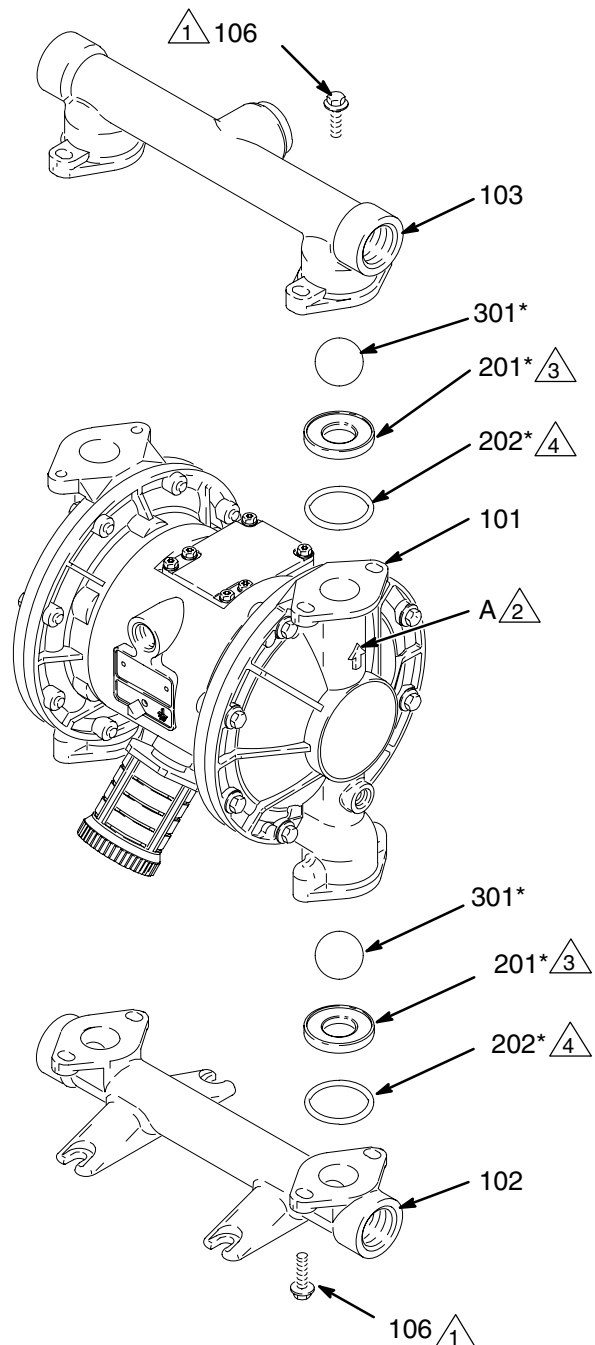

Fig. 12
3. Using a 10 mm socket wrench, remove the four bolts (106) and nuts (114, *used on stainless steel pumps only*) holding the outlet manifold (103) to the fluid covers (101). See Fig. 12.
4. Remove the o-rings (202, *not used on some models*), seats (201), and balls (301) from the manifold (103).
5. Turn the pump over and remove the inlet manifold (102). Remove the o-rings (202, *not used on some models*), seats (201), and balls (301) from the fluid covers (101).
2. Reassemble in the reverse order, following all notes in Fig. 12. Be sure the ball checks and manifolds are assembled **exactly** as shown. The arrows (A) on the fluid covers (101) **must** point toward the outlet manifold (103).
- 2  Arrow (A) must point toward outlet manifold (103).
- 3  Beveled seating surface must face the ball (301).